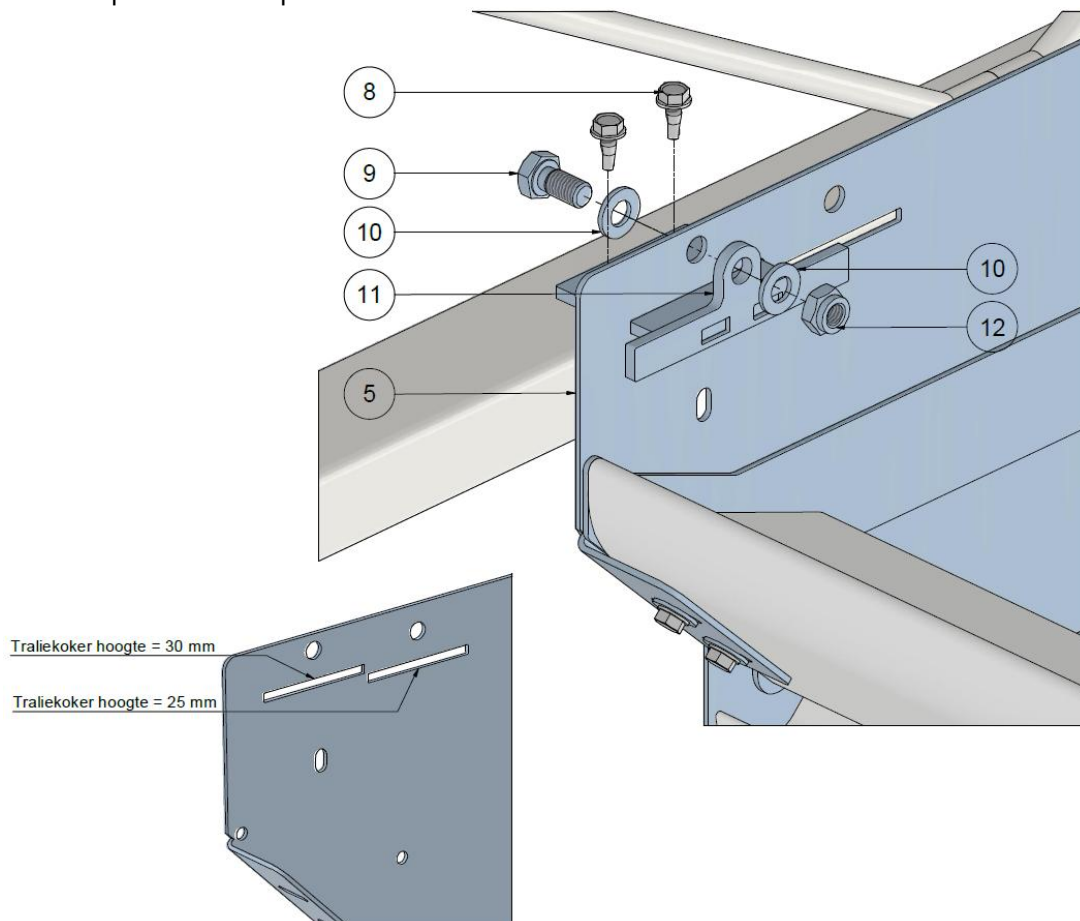

Figure 7 Mounting the Slide-in brackets into the end plate
- Fit two cover plates, lying onto each other (14), in the profile;
- Mount the second end plate with six 4,8x16 metal screws (6). Don't screw the metal screws fully fixed so there is some movement into the Airmix housing left.
- Place two 4,8x13 metal screws with tapping point (8) with corresponding fender washers m5 (7) into the second end plate. Don't screw the metal screws fully fixed too so there is space left to fine tune the end plate against the lattice (1).
- Slide the Airmix housing (23) between the profiles up to the end plate; attach it with six M8x16 hexagonal bolts (9) and six M8 fender washers (13);
- Put the cover plates in position and attach to each other with a 4.8x13 metal screw with tapping point (8);
- Lift the whole unit to the lattice and slide four Slide-in brackets (11) through the top of both end plates so these Slide-in brackets rest on the lattice.
- o Make sure the correct right slot is used for the Slide-in brackets. This is important for the height related to the screen. See Figure 7.
- Make sure the end plate (5) is fully against the lattice. If so, connect the Slide-in brackets to the end plate using one m8x16 stainless steel bolt (9), two washers m8 (10) and one self-locking nut m8 (12).
- Connect the Slide-in brackets (11) to the lattice (1) with two metal screws with tapping point 4,8x13 (8).
- Put the profile connector (17) in place, by turning it in the groove of the profiles, under the overlap of the cover plates.